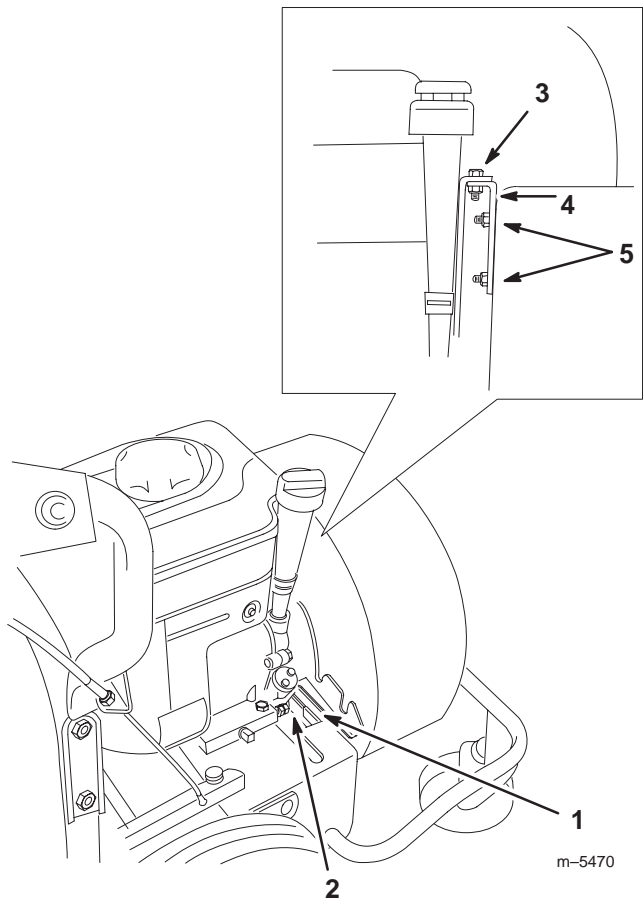

Figure 17
11. Reseat the housing, nesting the lower blower housing mounting bracket onto the front edge of the engine base (Fig. 17).
12. Install engine bracket on the housing mounting studs with 2 locknuts (Fig. 17).
13. Secure the bracket to the engine bracket with the bolt removed previously (Fig. 17).